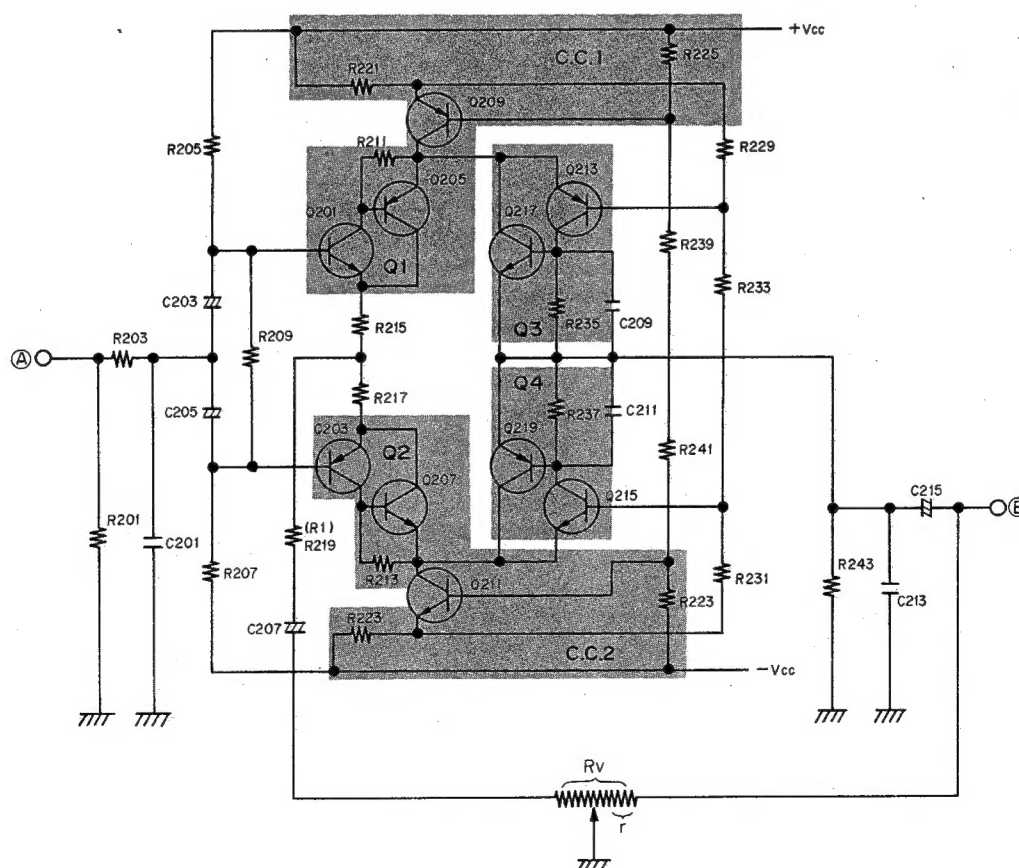

Fig. 9
As shown in Fig. 9, the Gm volume control circuit has a circuit configuration in which the I/O terminals (A) and (B) for the bridged transistors (Q1 - 4) and constant current circuits (C.C.1 - 2) are placed opposite each other. The input signal to terminal (A), for which the voltages almost equal to its signal voltage appear at the emitters of Q1 and Q2, is output in the form of current from the